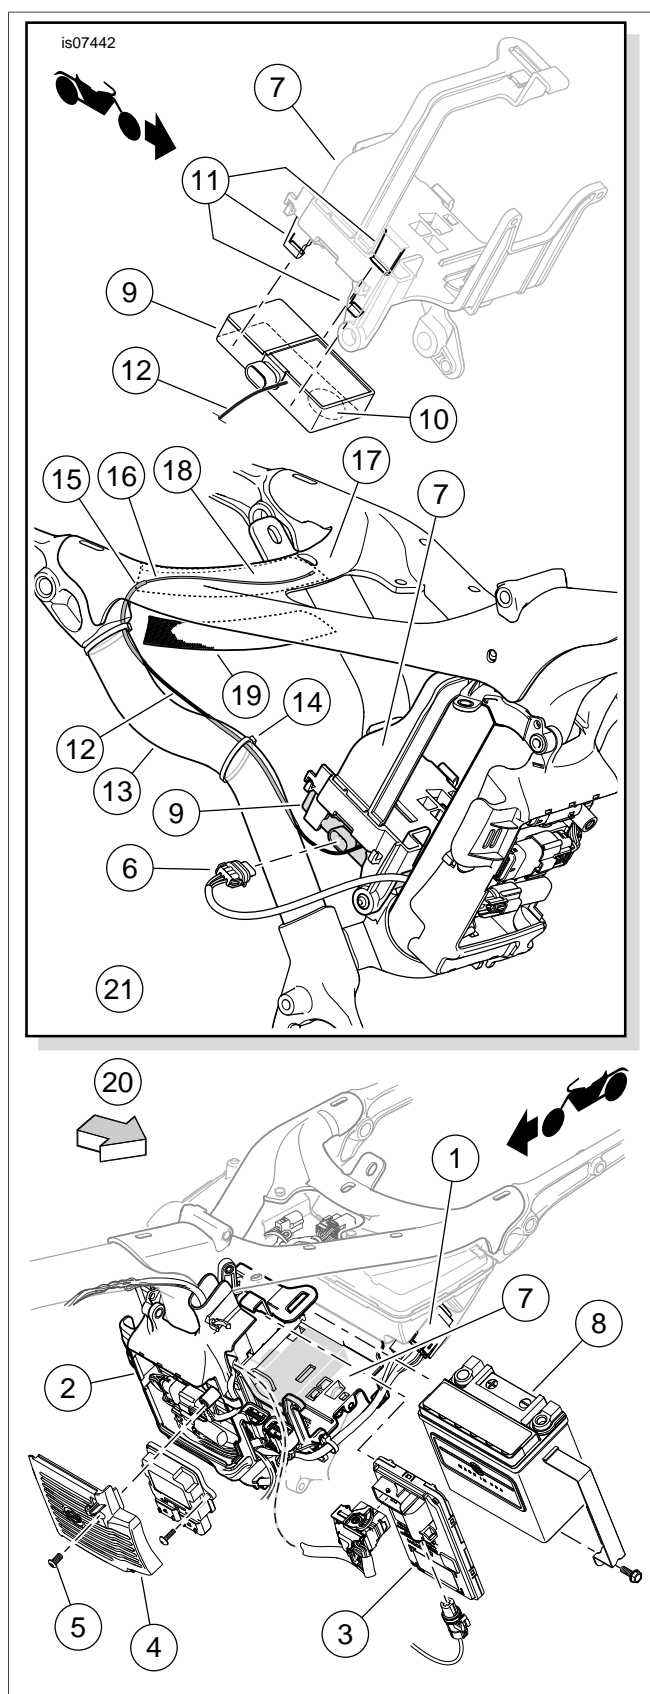

Figure 25. Siren Installation (2014-Later Sportster Models)
3. See Figure 25. Pull the fuse box (1) away from the oil tank. Remove the Body Control Module (BCM) (3) from the electrical caddy (2).
4. Remove the screw (5) retaining the ECM cover (4). Pull the ECM cover forward and out the left side of the vehicle.
5. Remove the security siren connector [142B] (6) from the retainer on the back of the electrical caddy. Route the connector and wiring under the battery tray (7) to the right side of the vehicle.
6. Remove the battery (8) from the vehicle per the service manual.
7. Insert security siren connector [142B] into the security siren (9) receptacle until the connector latches securely.
8. Snap the siren into the hooks (11) beneath the battery tray so the sounder disc (10) is toward the left front, facing downward.